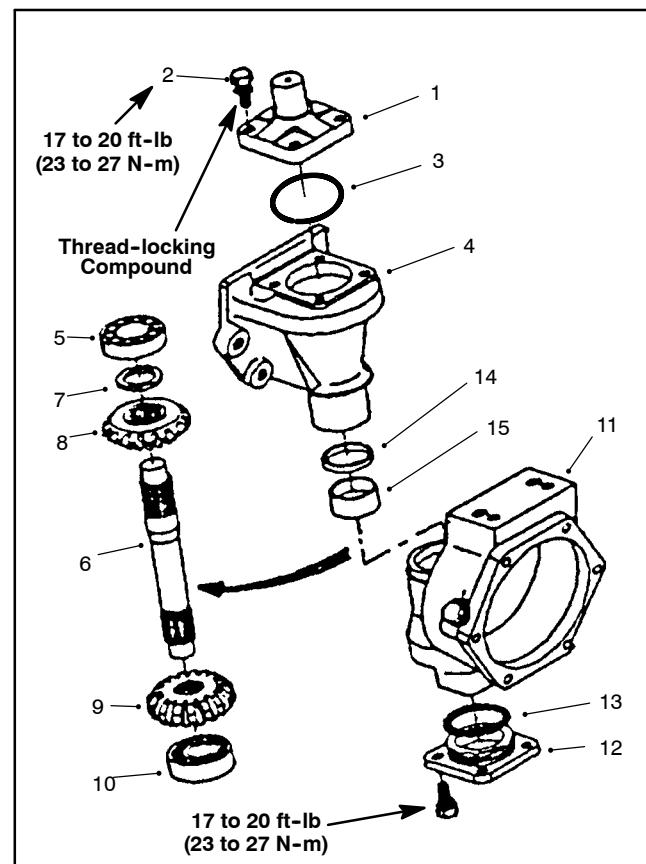

Figure 14
5. Remove the knuckle pin mounting screws and the knuckle pin. Remove the gasket and any remaining gasket material from either mating surface (Fig. 14).
10. Remove and discard bevel gear shaft seal from axle case (Fig. 14).